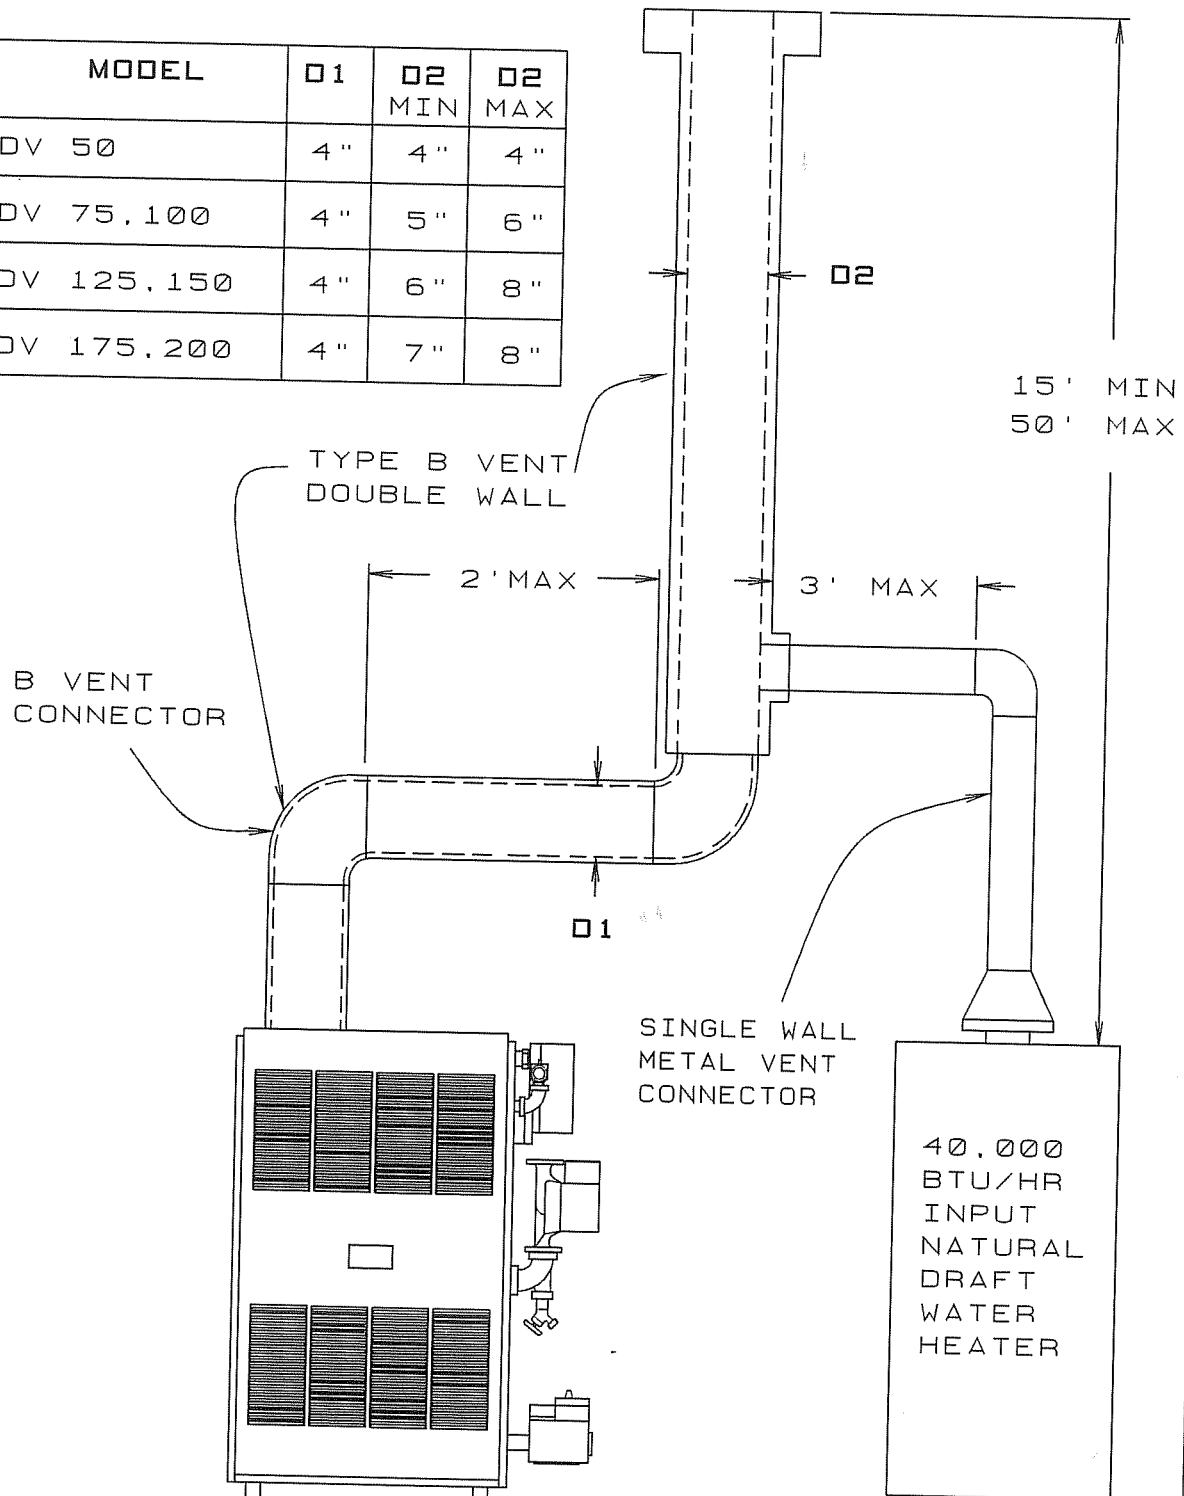

FIGURE 26
4. If you join two or more vent connectors before they enter the vertical vent or chimney, see figure 26, on page 23.
2. Designer and installer must provide an appropriately sized common vent for all appliances connected to it. See figure 26, on page 23.